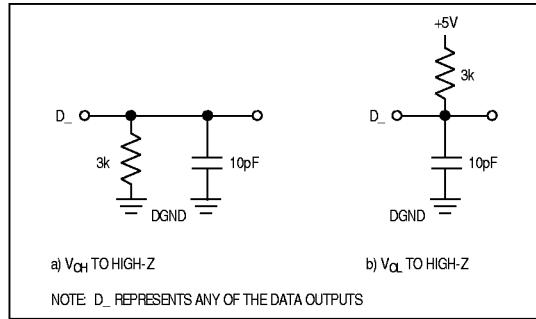

Figure 2. Load Circuits for Data-Hold Time Test
**Note 7:** t7 is defined as the time required for the data lines to change 0.5V when loaded with the circuits of Figure 2.